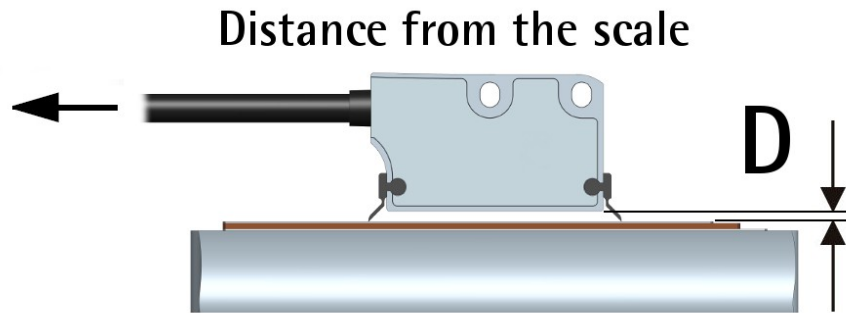
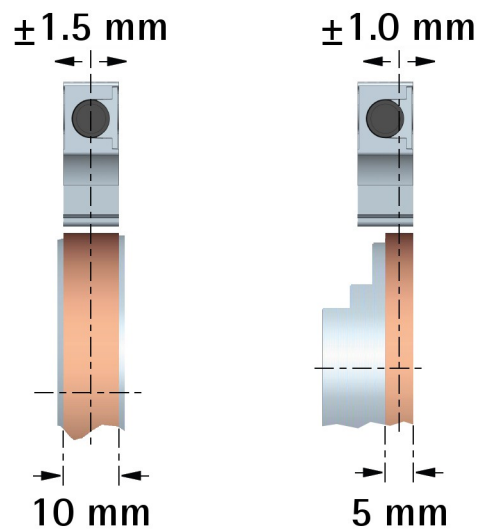
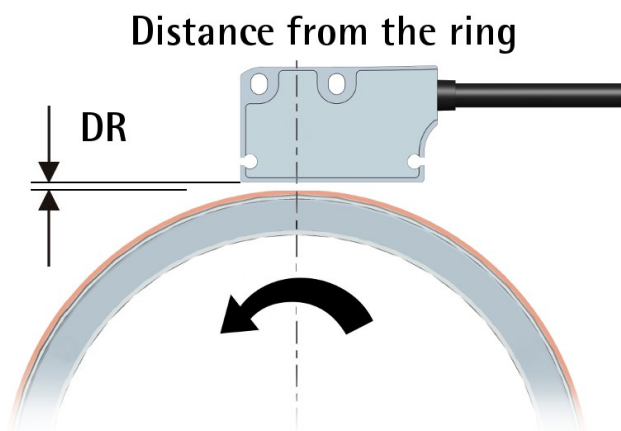

Figure 1 - Encoder / tape mounting gap
Figure 5 - Sensor / ring alignment
Figure 6 - Sensor / ring mounting gap
You can mount the readhead in both directions over the tape. The arrow in Figure 1 indicates the **standard counting direction** (the rising edge of A signal leads the rising edge of B signal) when the sensor moves in the direction indicated by the arrow; further information in the "4.6 Counting direction" section on page 23.
The distance D (see Figure 1) between the bottom of the encoder and the MT magnetic scale must be as follows:
When the sensor is installed on magnetic rings having a 10 mm / 0.4" wide magnetic surface, line up both the sensor and the ring on the central axis. When magnetic rings having a 5 mm / 0.2" wide magnetic surface are used, line up the sensor and the ring as shown in Figure 5; please consider that the incremental sensor is located laterally in the sensing head. With 5 mm rings the mounting direction of the ring makes no difference (but ascertain that the sensor is properly aligned on the correct side!).
To learn about the mounting tolerances refer to the tables below as well as to Figure 2, Figure 5 and Figure 6.
The positive counting direction (the rising edge of A signal leads the rising edge of B signal) is achieved when the sensor moves on the tape according to the arrow shown in Figure 1; or when the ring turns according to the arrow shown in Figure 6. For further information see the "4.6 Counting direction" section on page 23.
3.11 Optional cleaning wipers (Figure 1)
The **standard counting direction** (the channel A leads the channel B) is to be intended with sensor moving as shown in Figure 1 in a linear application; with ring turning as indicated by the arrow in Figure 6 in a rotary application.
By default the phase relationship between A and B channels is so that the rising edge of A channel leads the rising edge of B channel when the encoder moves in the direction shown by the arrow in Figure 1 in a linear application; or when the ring turns as indicated by the arrow in Figure 6 in a rotary application (see the "4.5 ABO, /ABO output channels" section on page 21). Thus the counter in the subsequent electronics will get a count up. It cannot be changed.